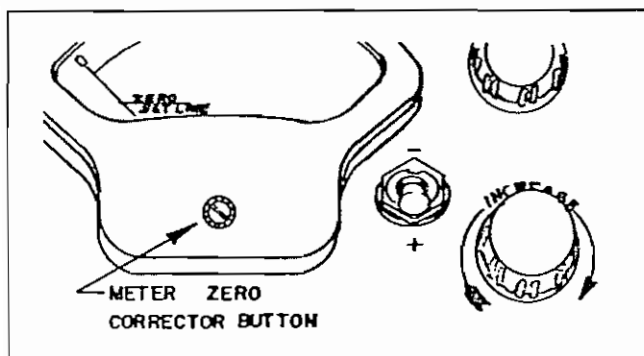

Figure 58
5. With tester turned off, turn zero corrector on face of meter until pointer is on zero set line, see figures 58 and 59.